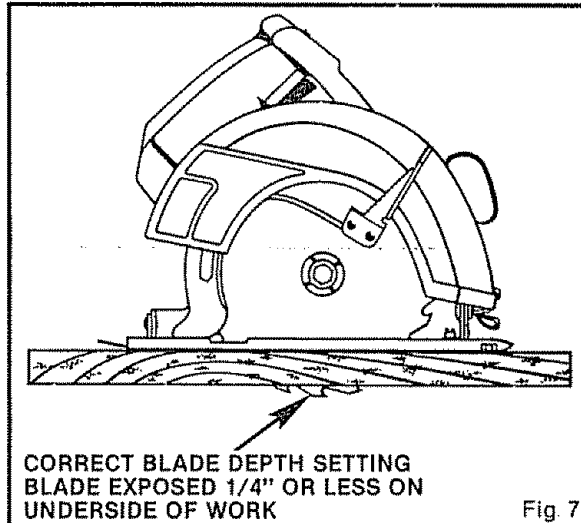

Fig 7
- 1 Always keep the correct blade depth setting – the correct blade depth setting for all cuts should not exceed 1/4" below the material to be cut. See Figure 7